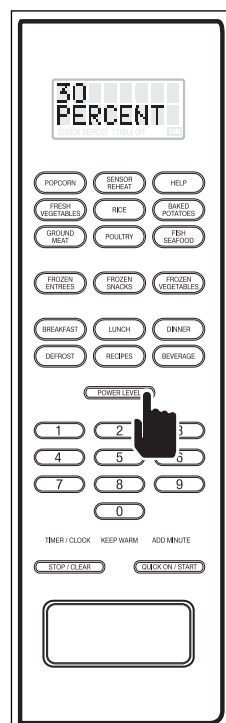

Figure 3-37.
2. Press the POWER LEVEL key eight times, until the display shows "30 PERCENT" (See Figure 3-37).